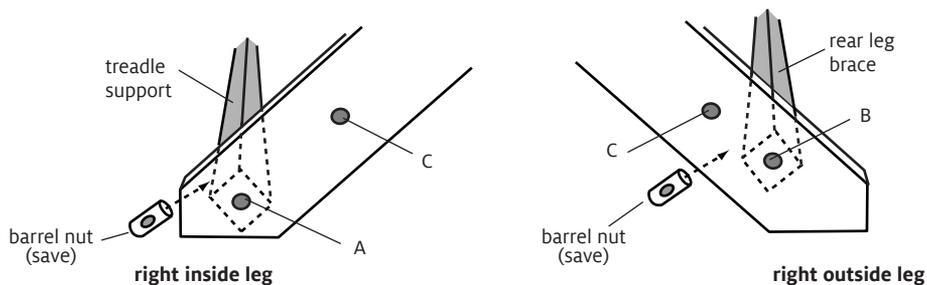

FIGURE 2: WOLF LEGS
2. Set the treadle support on a block of wood or a few books to elevate the loom front about two inches. Remove the machine screws and barrel nuts that hold the treadle support to the inside legs at hole [A] (Figure 2). Save the barrel nuts for the next step.
4. Set the rear leg brace on a block of wood or a few books to elevate the loom back about two inches. Remove the machine screws and barrel nuts holding the rear leg brace to the outside legs at hole [B] (Figure 2).